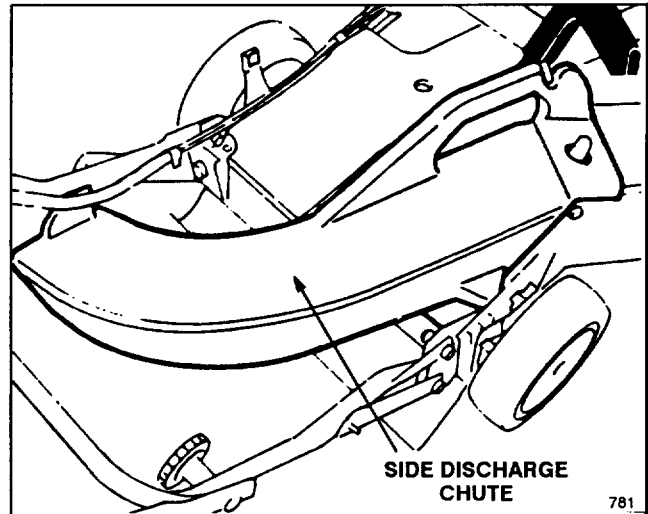

Figure 36
1. **Side Discharge Kit, Model No. 59168**—Installs in seconds. Rear mounted in place of the grass bag or discharge tunnel plug. Disperses clippings while trimming on both sides (Fig. 36).